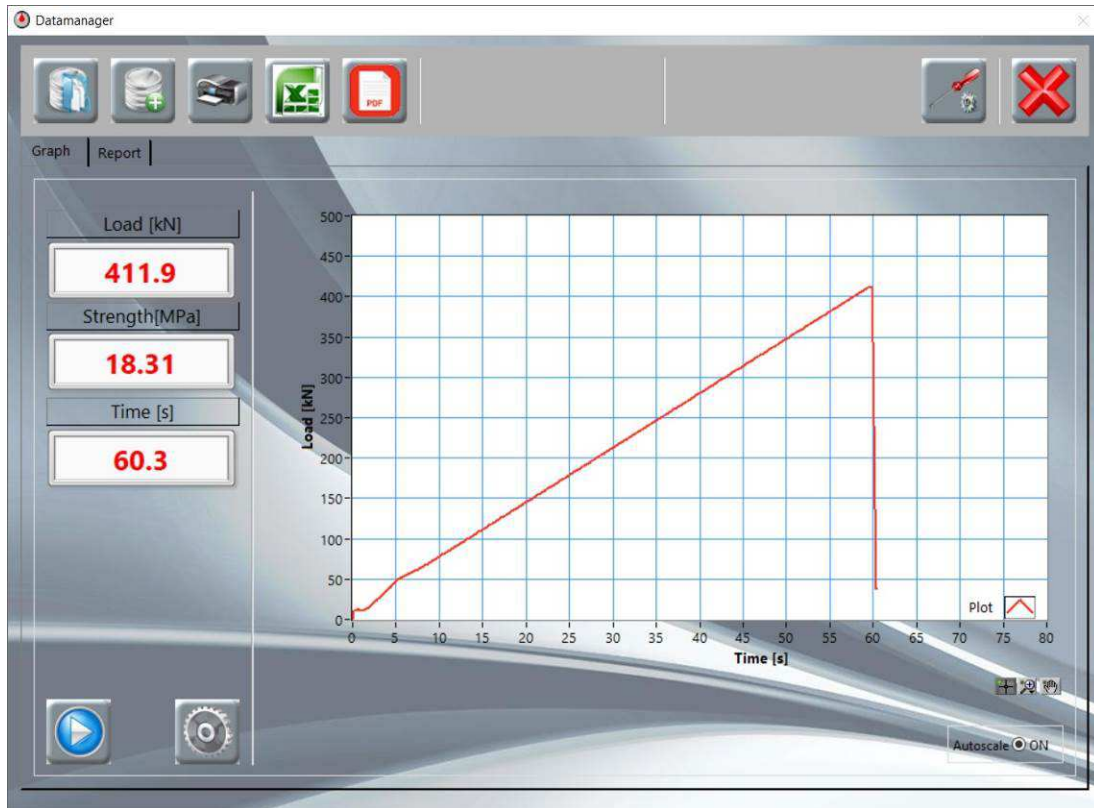

Fig. 6-19
12. Click the 'Graph' tab to view the **Graph window** (Fig. 6-19).